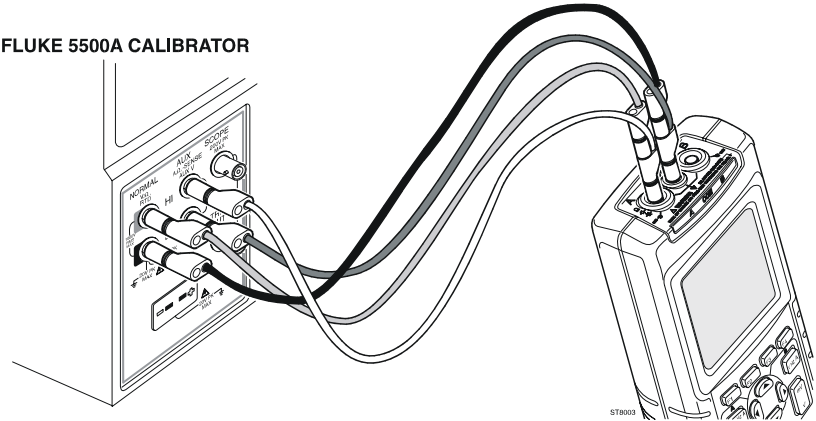

Figure 3-9. Test Tool Input A to 5500A Normal Output 4-Wire
- 1. Connect the test tool to the 5500A as shown in Figure 3-9.
- Connect the test tool to the 5500A as for the previous test (see Figure 3-9).
1. Connect the test tool to the 5500A as for the previous test (see Figure 3-9).
1. Connect the test tool to the 5500A as for the previous test (see Figure 3-9). Ensure that the 5500A is in Standby.
1. Connect the test tool to the VIDEO output of the TV Signal Generator as shown in Figure 3-9.